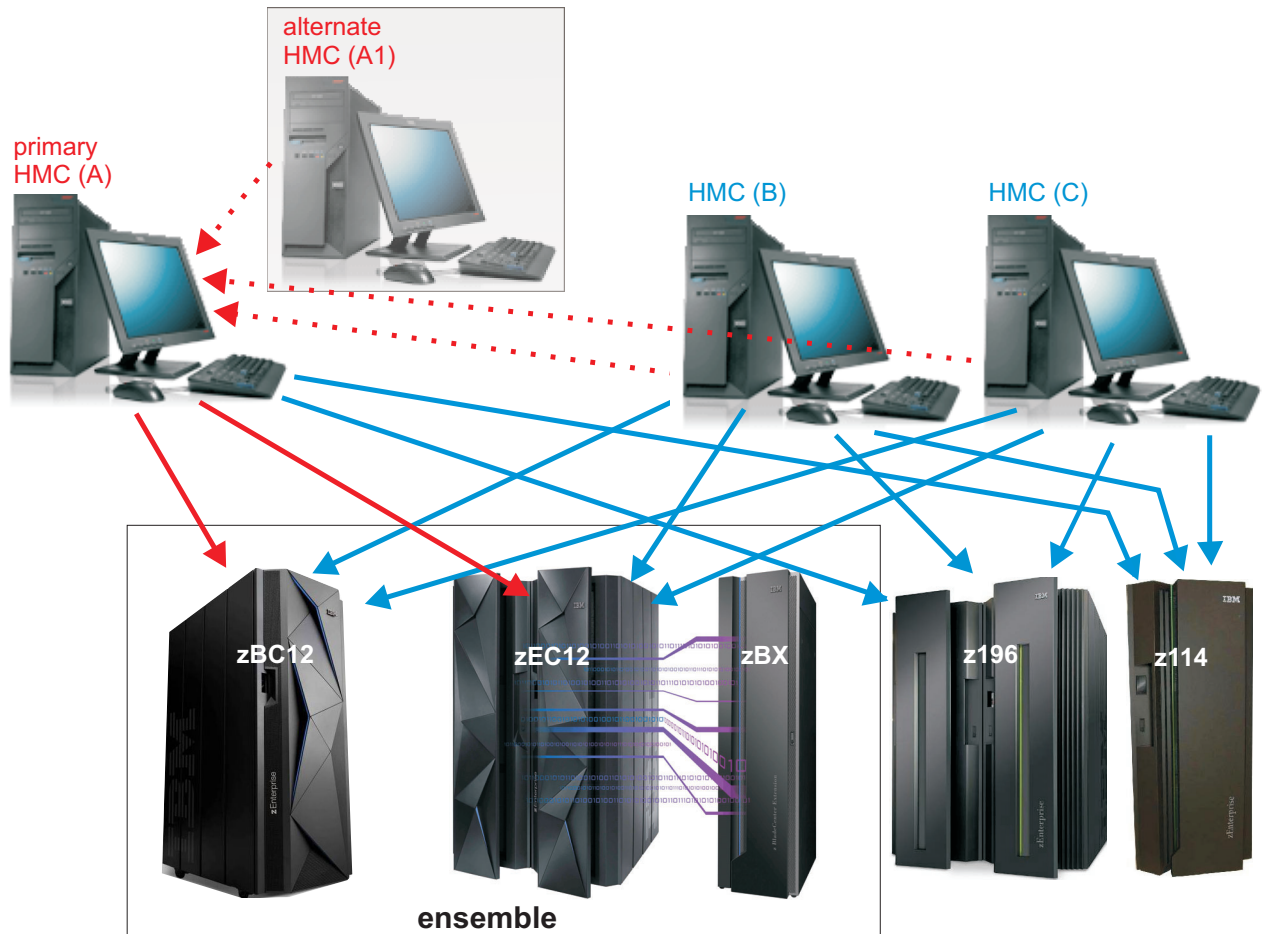

Figure 13. Hardware Management Console configuration
When managing an ensemble, two Hardware Management Consoles are required. The primary Hardware Management Console manages the CPCs (nodes) in an ensemble. (A single CPC, including any optional attached zBX, is called a node.) A primary Hardware Management Console can also manage CPCs that are not members of an ensemble. The alternate Hardware Management Console is used as backup. If the primary fails, the alternate Hardware Management Console takes over as the primary Hardware Management Console. An Hardware Management Console, other than the primary Hardware Management Console or the alternate Hardware Management Console, can also manage CPCs that are in an ensemble. (See Figure 13 on page 112.)
In Figure 13, HMC (A), the primary Hardware Management Console, can directly control the three CPCs (zBC12 and zEC12 in the ensemble, and z196 outside of the ensemble). HMC (A), because it is defined as the primary Hardware Management Console, will include ensemble-specific functions, but it can only perform ensemble-specific functions for zBC12 and zEC12, not z196.